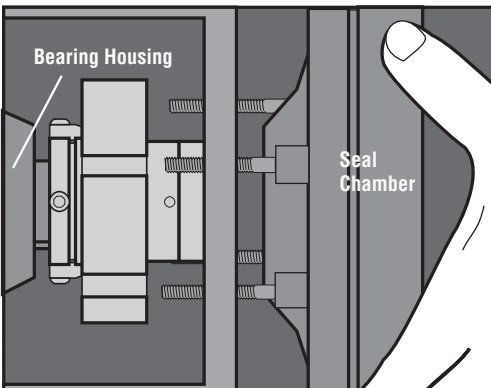

Figure 3
- 2.4 **Install the seal chamber** and bolt it in place on the bearing frame. See Figure 3.